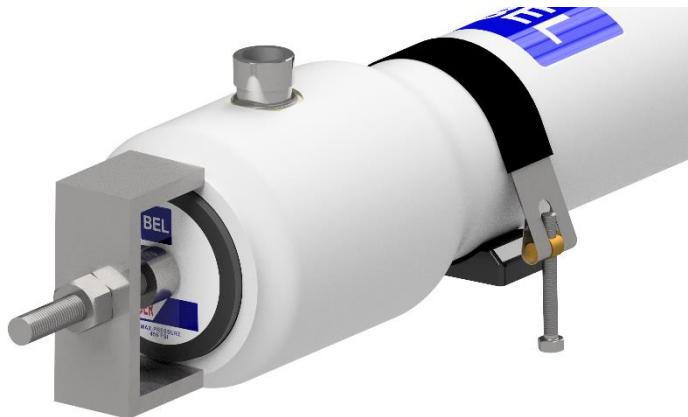

Fig. 4.3.4b
c) Screw out the Puller's hex nut (clockwise) until the Head assembly is extracted, after that pull out the Puller with the Head assembly. As shown in Fig 4.3.4b